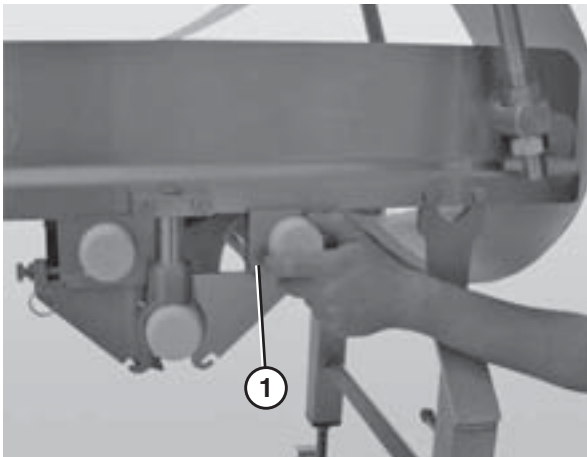

Figure 31
4. Slide the tension spindle assembly (Figure 31, item 1) out of the housing.
9. Slide the tension spindle assemblies (Figure 31, item 1) back into the housing.